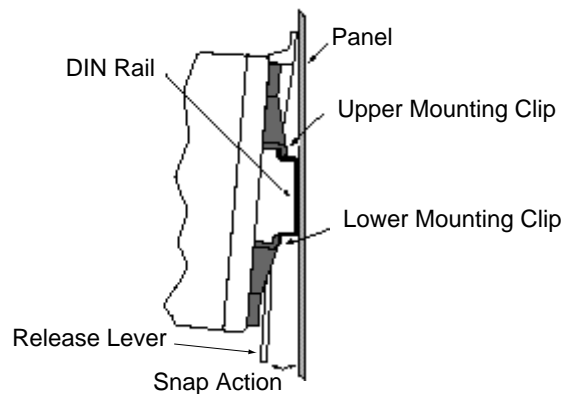

Figure 2b — Series 103 side view mounting.
1. Place the Series 103 upper mounting clip on the top edge of the DIN rail. See the Figure 2b on this page.